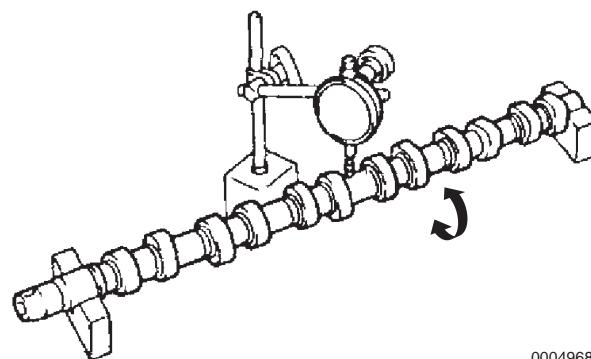

Figure 5-43
- Install the camshaft on a V-block to measure camshaft runout on the center journal. Use a dial indicator to measure runout while turning (**Figure 5-43**).